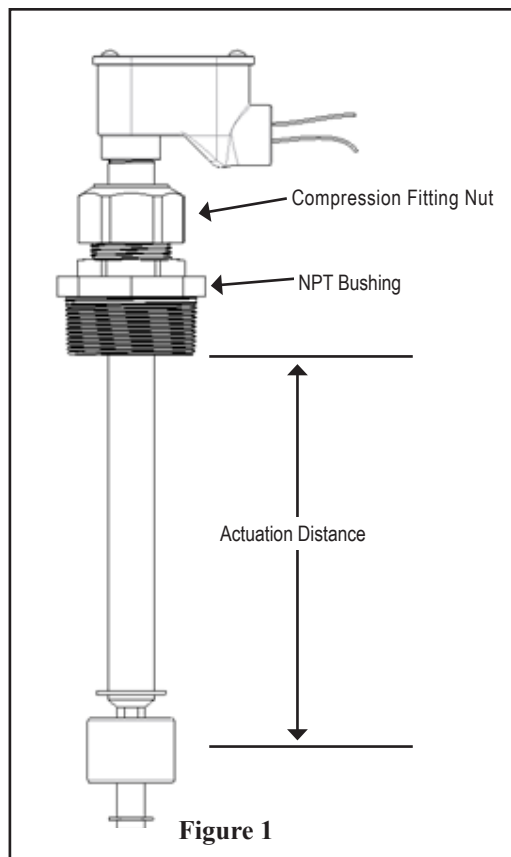

Figure 1
8. For proper actuation point height adjustment, loosen the compression fitting nut on the top of the 2" NPT Bushing and move the entire pipe up or down to the desired height, see Figure 1. You can fine tune your adjustment by raising the float again to see if the alarm actuation occurs at your desired point.